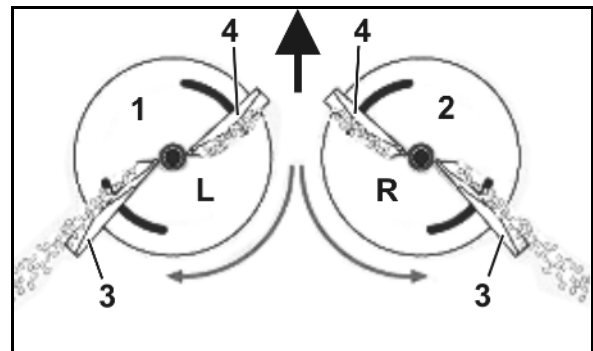

Fig. 18
- Left spreading disc (Fig. 18/1) with **L** mark.
- Right spreading disc (Fig. 18/2) with **R** mark.
- **Long** (Fig. 18/3) – Adjustment scale with values from 35 to 55.
- **Short** (Fig. 18/4) – Adjustment scale with values from 5 to 28.